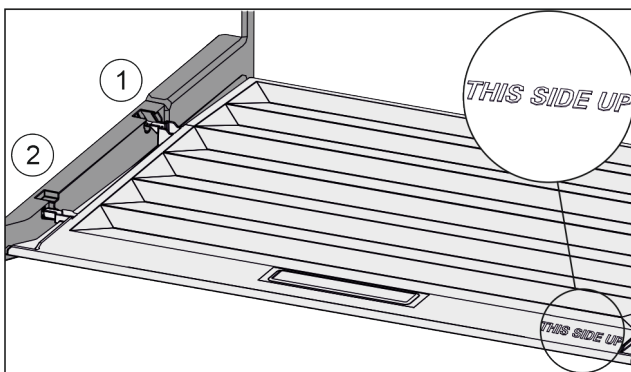

Fig. 97
- ▶ Insert the lip of the cover over the opening of the rear bracket Fig. 97 (1) and click into place Fig. 97 (2).